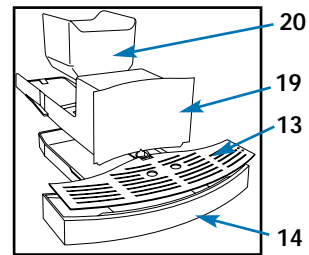

Fig. 1a
- 13. Removable Grid (see fig. 1a)
- 14. Removable Tray (see fig. 1a)
- 19. Supporting Tray for Used Coffee Container (see fig. 1a)
- 20. Used Coffee Container (see fig. 1a)